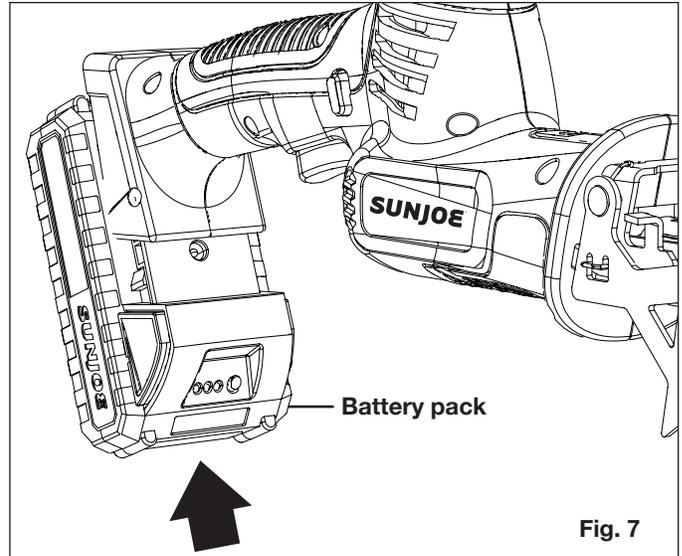

Fig. 7
1. Ensure the blade and the branch jaw clamp (if used) are securely assembled. Insert the battery in the battery compartment (Fig. 7).